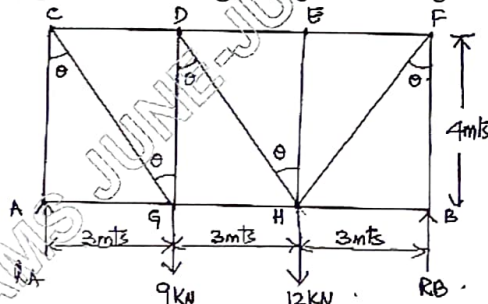

Fig. Q9 (c)
c. A truss is shown in Fig. Q9 (c), find the support reactions and calculate total weight if each member has \rightarrow 2 angles $50 \times 50 \times 6$ @ 4.5 kg/mt each angle. (09 Marks)